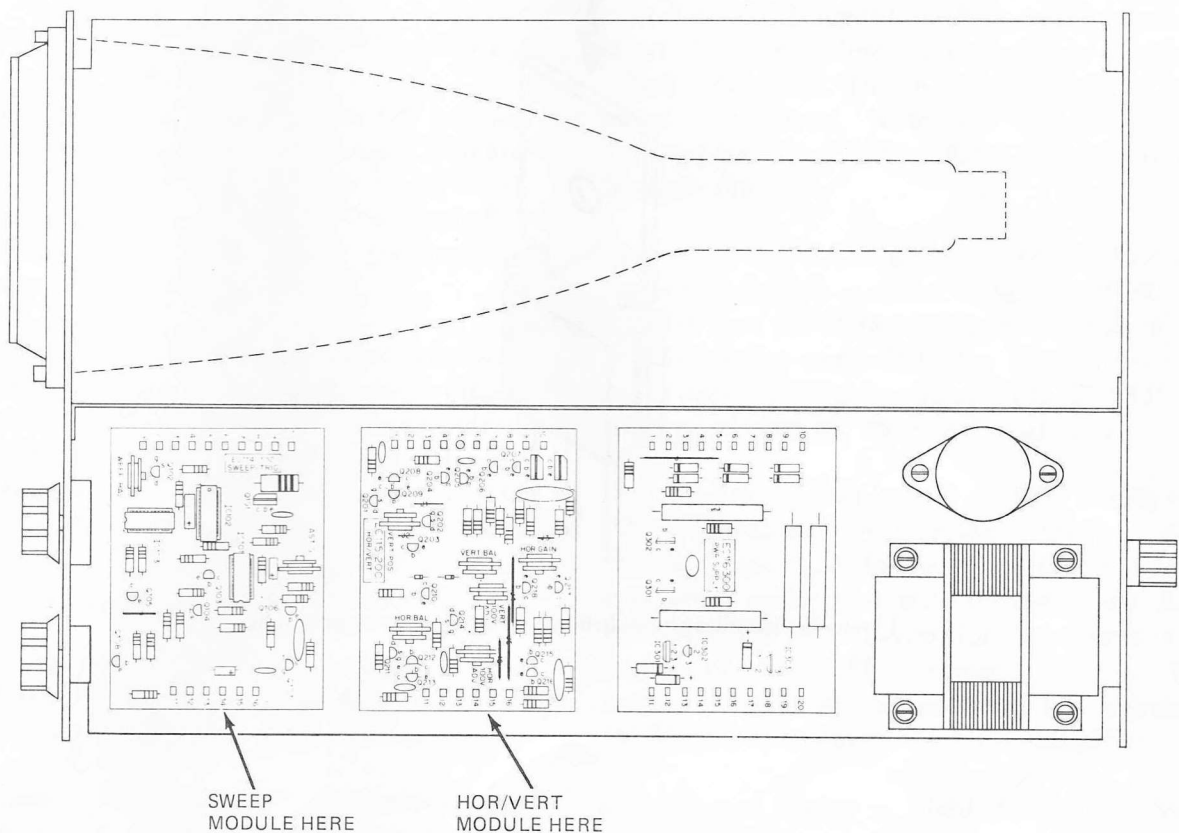

Figure 41. Installing the horizontal/vertical amplification and sweep/trigger modules.
(1) Install the hor/vert module as shown in Fig.41
(2) Install the sweep module as shown in Fig.41